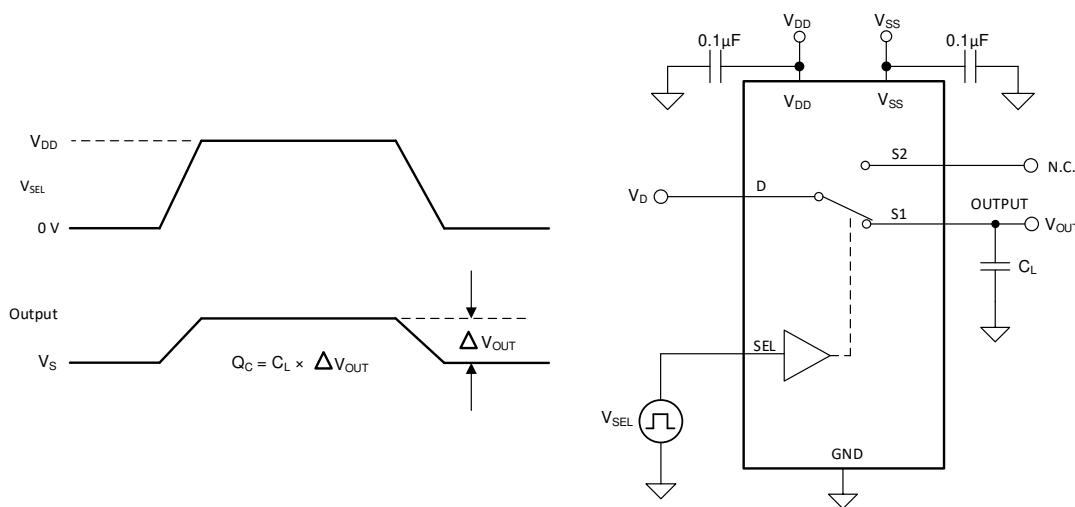

Figure 7-6. Charge-Injection Measurement Setup
The TMUX1248 has a transmission-gate topology. Any mismatch in capacitance between the NMOS and PMOS transistors results in a charge injected into the drain or source during the falling or rising edge of the gate signal. The amount of charge injected into the source or drain of the device is known as charge injection, and is denoted by the symbol Q_C . Figure 7-6 shows the setup used to measure charge injection from Drain (D) to Source (Sx).